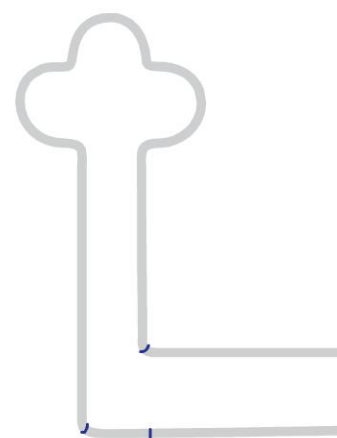

figure 6
- 11 Use flat-nose pliers to make a 90° bend on the right key frame wire on the mark made in Step 10 (Figure 6).